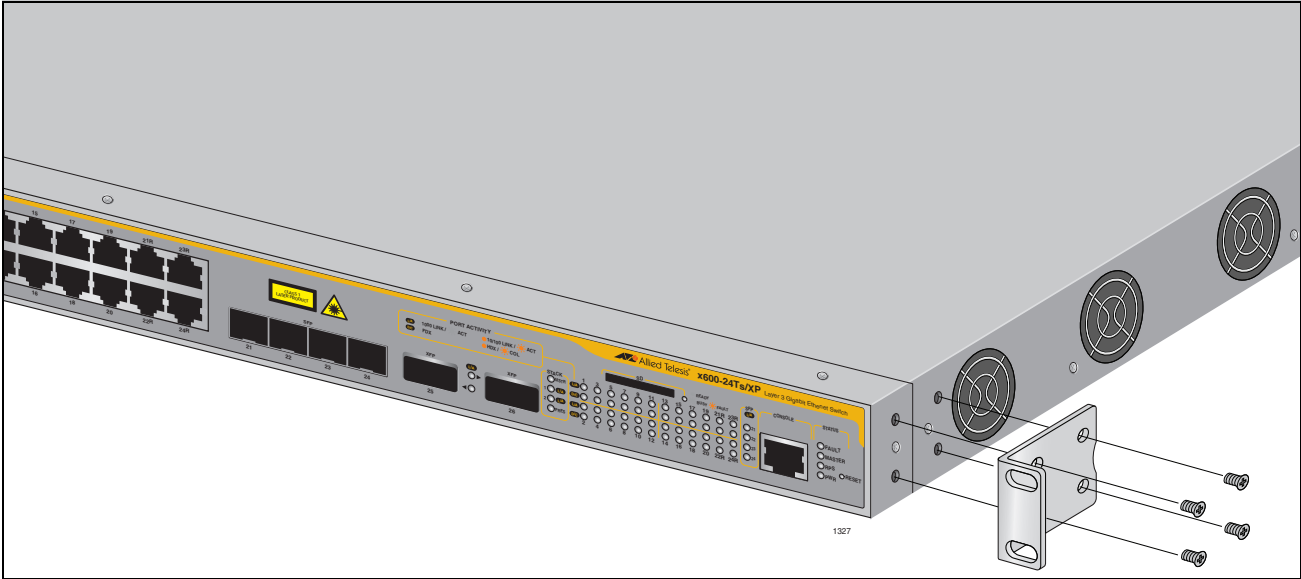

Figure 24. Attaching Rack-Mount Brackets
4. Attach a rack-mount bracket to one side of the switch using four of the screws that come with the switch, as shown in Figure 24.